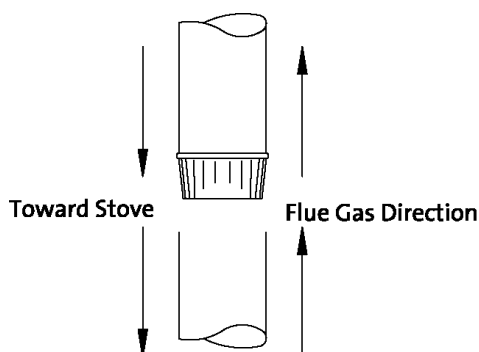

Fig. 2.1. Chimney connector assembly.
- Each chimney connector or stove pipe section must be installed to the stove flue collar and to each other with the male (crimped) end toward the stove. **See figure 2.1.** This prevents any amount of condensed or liquid creosote from running down the outside of the pipe or the stove top.